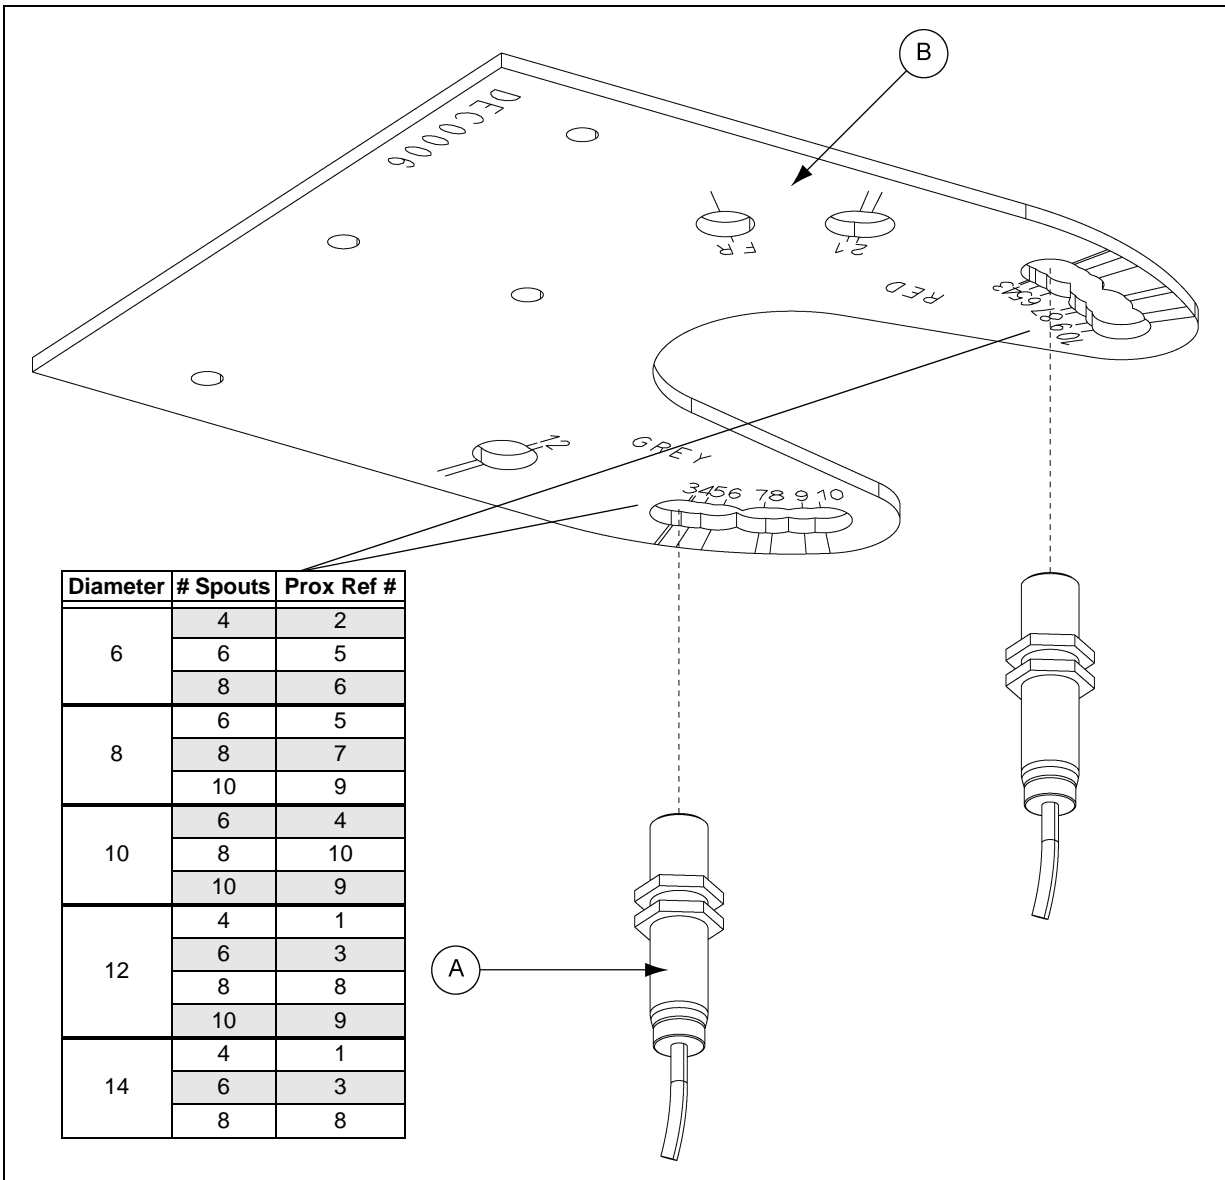

Figure 6D Proximity Sensor Location
**NOTE:** The location of the proximity sensor will be determined by the configuration of the distributor. Using the table shown in Figure 6D, locate the diameter and number of spouts of the distributor being used and note the proximity sensor reference number. This reference number is marked on the bottom of the proximity sensor bracket (DEC0006) (B) and identifies the location for installing the proximity sensors (DEC0107) (A).
Install the two (2) proximity sensors (DEC0107) (A) into the proximity sensor bracket (DEC0006) (B) at the appropriate locations determined from the table. (See Figure 6D below and Figure 6E on Page 44.)